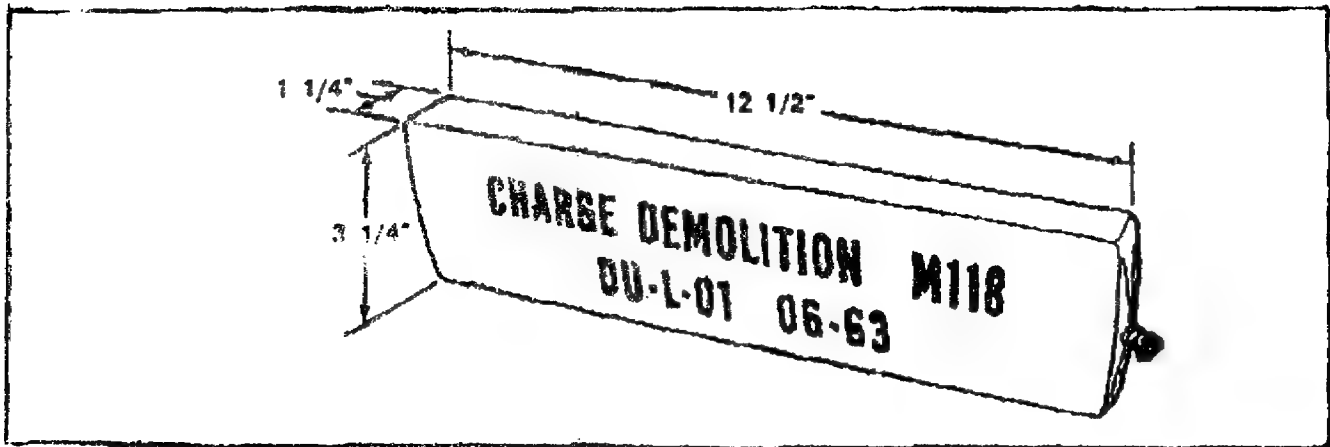

Figure 84. Charge, Demolition Block, M118.
**Charge, Demolition Block, M118.** The charge M118 (Figure 84) consists of four 1/2-pound sheets of flexible explosive commonly known as Flex-X. Each sheet is about 3 inches wide, 12 inches long, and 1/4 inch thick. It has pressure-sensitive adhesive tape attached to one surface, making it ideal as a cutting charge. The four sheets are enclosed in a mylar-film bag, which is olive drab with yellow markings. The M118 block is packed 20 blocks with 80 metal blasting-cap holders to a wooden box.